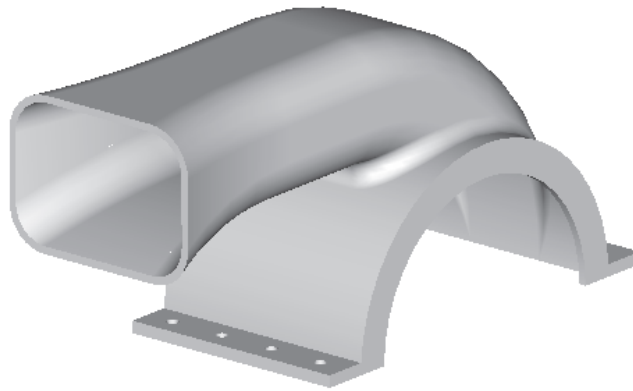
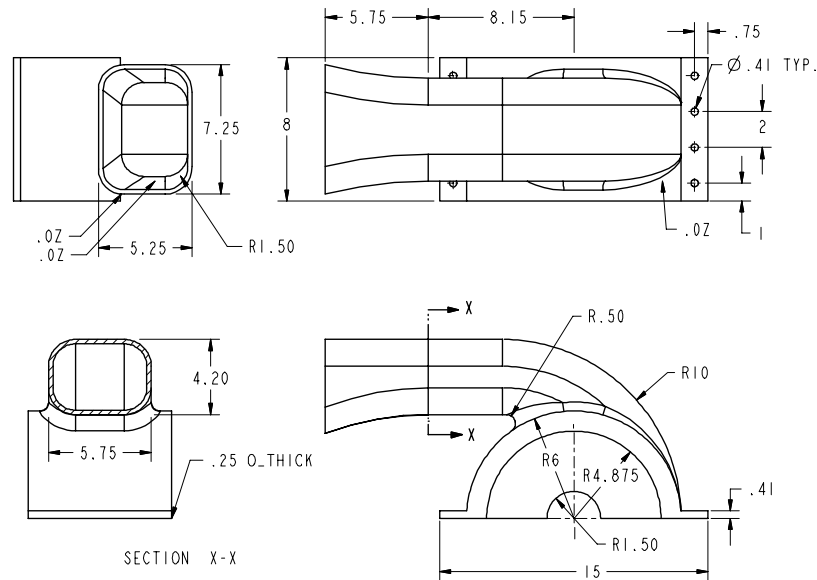
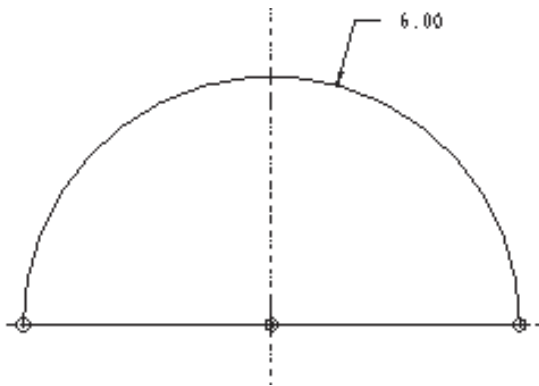
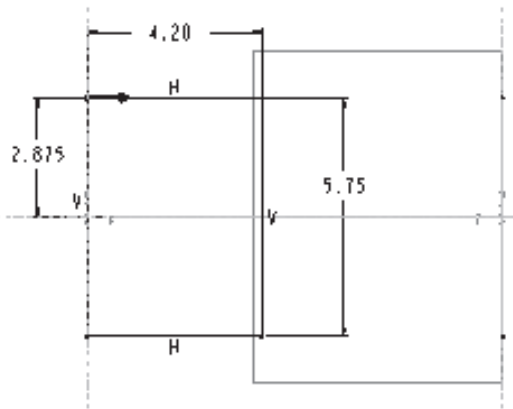

Figure 8-40 Solid model of the Upper Housing
Figure 8-41 Left-side view of the top view, top view, front view, and the sectioned left-side view of the model
Figure 8-42 Sketch for the base feature
Figure 8-47 Sketch for second section with dimensions
In this tutorial you will create the model shown in Figure 8-40. This model is a Upper Housing of a motor blower assembly. Figure 8-41 shows the left-side view of the top view, top view, front view, and the sectioned left-side view of the model.
- a. First examine the model and then determine the number of features in it. The model is composed of ten features, see Figure 8-40.
- b. The base feature is an extruded feature, see Figure 8-41. Select the sketching plane for the base feature, draw the sketch using the sketcher tools, and apply dimensions, see Figure 8-42.
5. Once you enter the sketcher environment, create the sketch of the base feature and apply dimensions as shown in Figure 8-42.
16. Draw the sketch of the second section and add dimensions as shown in Figure 8-47. This section is at the point between the first and the third section and in Figure 8-41, this section is named as X-X.